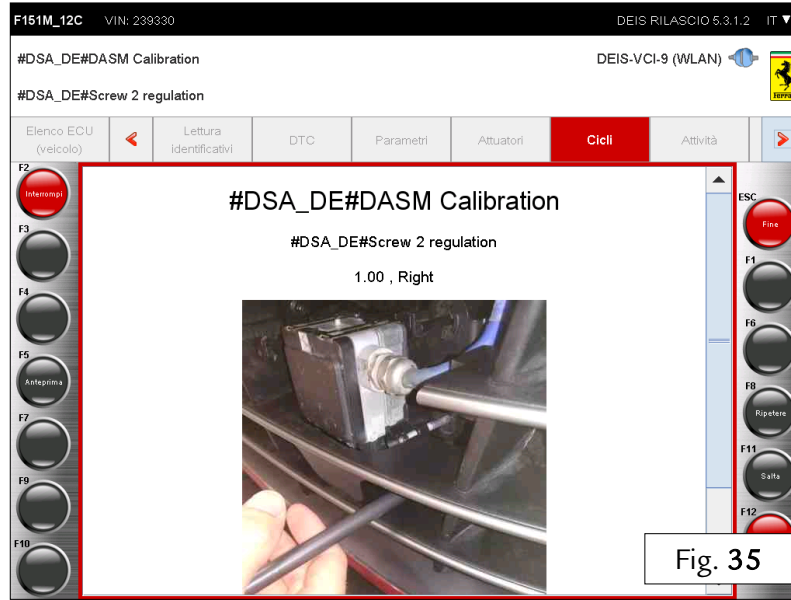

Fig. 35
- In the following screenshot, given as an example, the user is prompted to turn screw 2 to the right by one complete turn (1.00) using the specific **ADAS RADAR ADJUSTMENT WRENCH ADAS (P/N 95978848)** – Fig. 35.